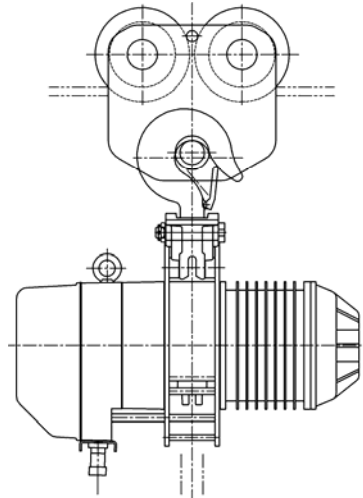

Figure 3-11 Model 5 Ton ES
- 6) 5 Ton ES – This hoist couples to the trolley by hook mounting the hoist to the trolley's suspension shaft. As shown in Figure 3-11.